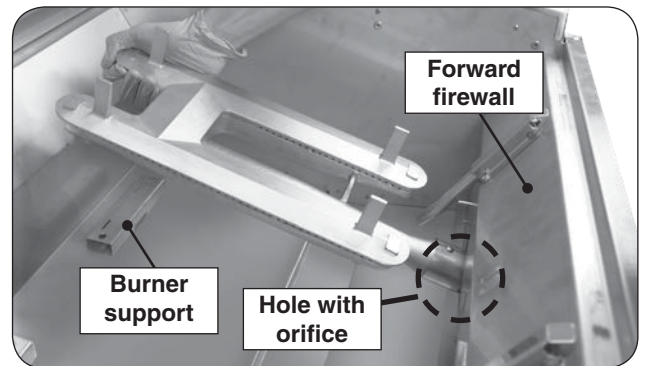

Fig. 40-3 Remove burners
3. Carefully lift the burner from the burner support and out from the hole in the forward fire wall. See Fig. 40-3.